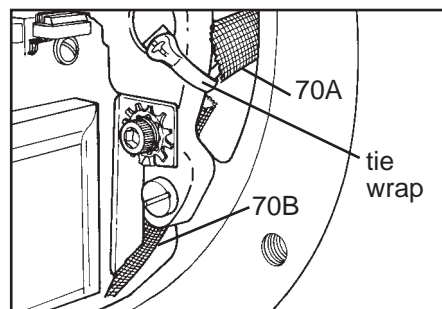

Figure 3
- To protect wire insulation, slide fiberglass tubing (70A) over underside of support plate lead wires and into endplate lead wire outlet hole until it touches the elbow. (See Figure 3.)
- Mount support plate assembly (142) to endplate using screws and conical spring washers (142S and 142W). Flat washer (142X) is installed under the conical spring washer. Torque these screws (142S) to 50 lb-in nominal. Be sure the assembly is mounted with the solenoid plunger above the solenoid frame on horizontally installed brakes. (See Installation, Note 1.)
- Using tie wrap provided, install tie wrap so that wires are held away from pressure plate as shown in Figure 3.